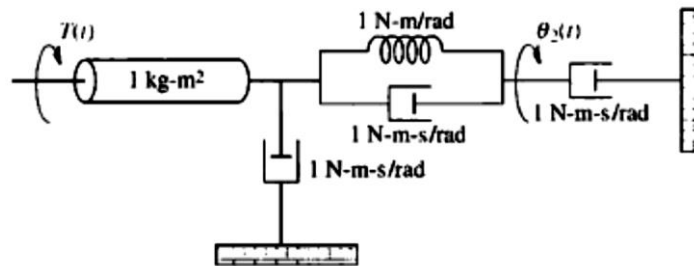

Figure 2C
- 2C.** For the rotational mechanical system shown in figure 2C, find the transfer function **03**